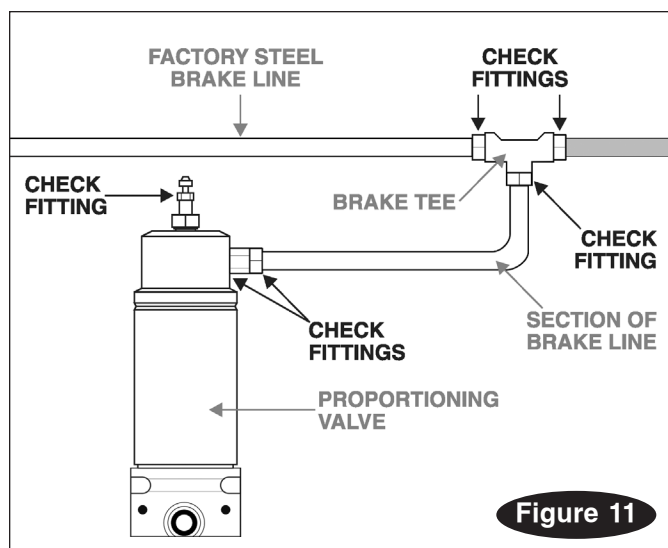

Figure 11
11. Inspect the bleeder screw and other fittings for leaks. Correct, if necessary. Inspect the proportioning valve and the brake line fittings at the six points indicated in Figure 11 and correct, if necessary.